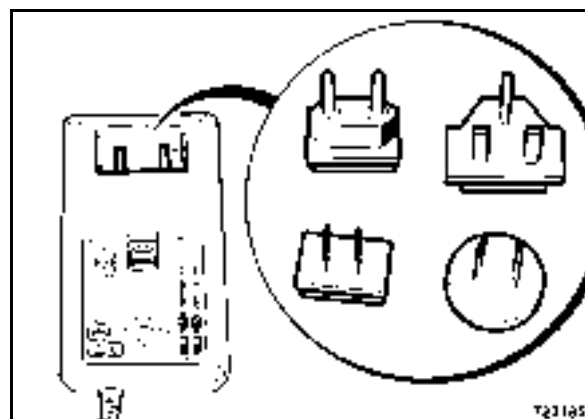

Fig. 78
- Plug the corresponding plug (Fig. 78) onto the mains unit of the battery charger.